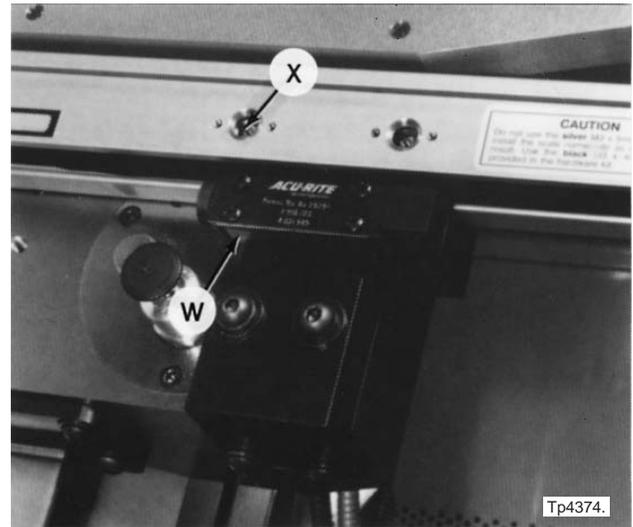

Figure 1.48 - Mounting Holes for Alignment Brackets
8. Using cross slide handle “Q”, Figure 1.25, move the cross slide to align the threaded holes in read head “W”, Figure 1.48, with two access holes “X”.
- a) Position the brackets over two access holes "X", Figure 1.48 .